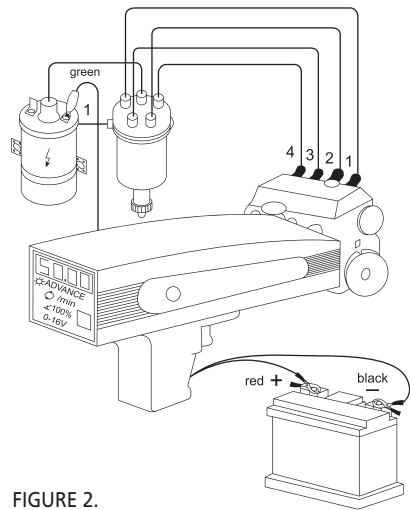

FIGURE 2.
1. Press the tact switch to light the Dwell indicator. (See figure 2)